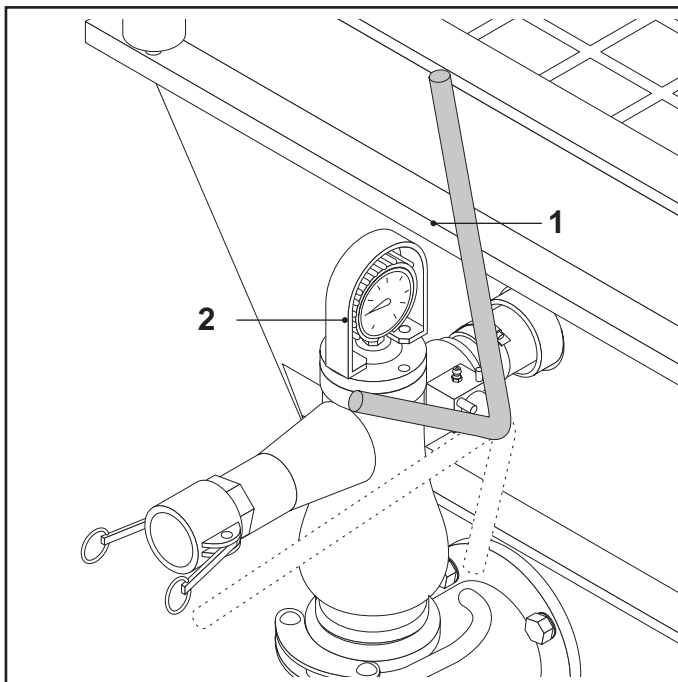

FIG.40
- Discharge the pressure in the material flow pipes by turning the by-pass lever to a vertical position (FIG.40-REF.1).
- Wait for the pressure indicated by the manometer (FIG.40-REF.2) to fall to zero.
- Discharge the pressure in the flow pipes by turning the by-pass lever to a vertical position (FIG.40-REF.1).
- Wait for the pressure indicated by the manometer (FIG.40-REF.1) to fall to zero.
- Discharge the pressure in the line pipes by taking the by-pass lever to a vertical position (FIG.40-REF.1).